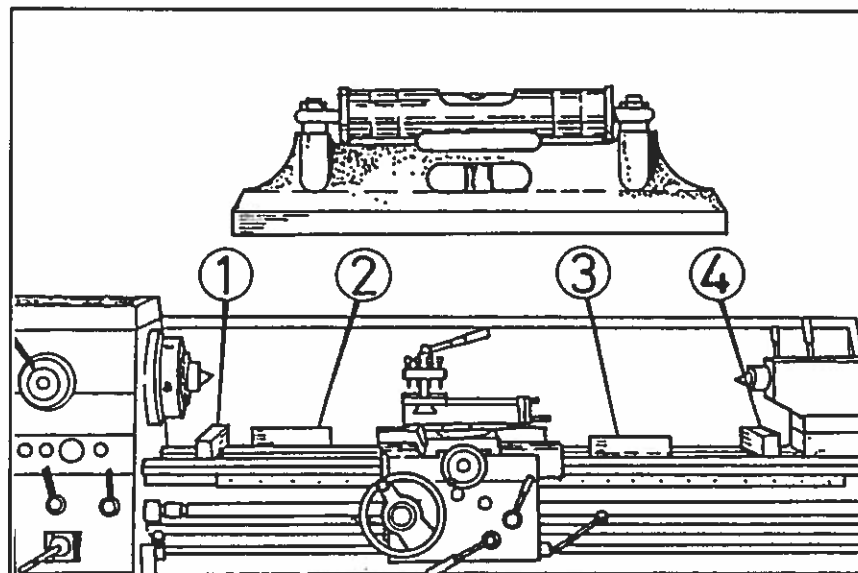

Fig. 2
Position lathe on foundation and adjust each of the eight/ten mounting feet to take equal share of the load. Then using a machinist's precision level on the bedways (as in Fig 2) adjust the feet to level up machine. Periodically at least every six (6) months check bed level to ensure continued lathe accuracy.
Position lathe over four bolts (1/2 in. or 13mm. diam.) set into the foundation to correspond with holes in the mounting feet. dimensions are shown on foundation plan. Accurately level the machine, as in Fig. 2 then tighten hold-down bolts. Re-check bed level.